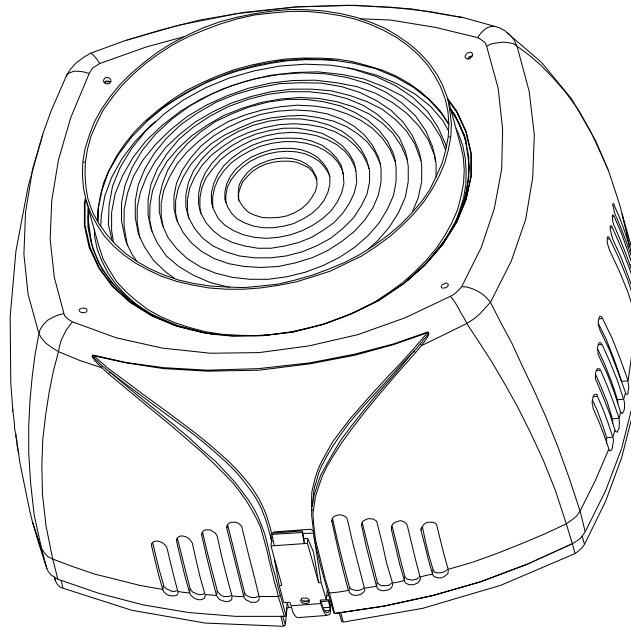

Figure B.9. Installed Light Snoot
7. Rotate the clips back in place and tighten the four screws. Refer to Figure B.9. Check to ensure the lens is secure by attempting to rotate it.